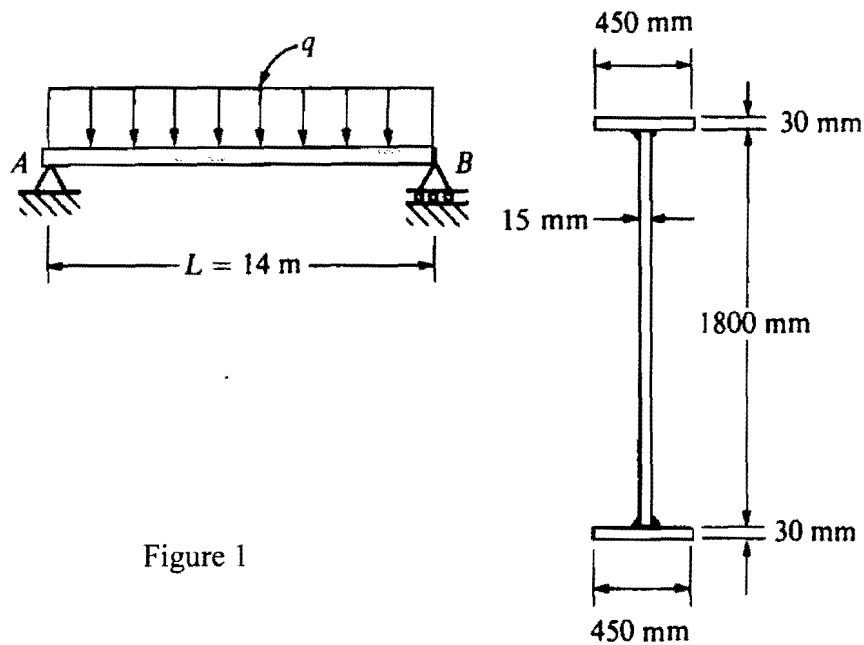

Figure 1
1. A simple beam  $AB$  with span length  $L=14$  m supports a uniform load of intensity  $q$  that includes the weight of the beam (see Figure 1). The beam is constructed of three plates of the same thickness welded together to form the cross section shown in the figure.